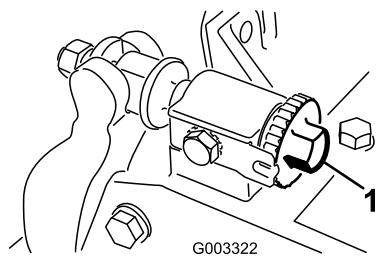
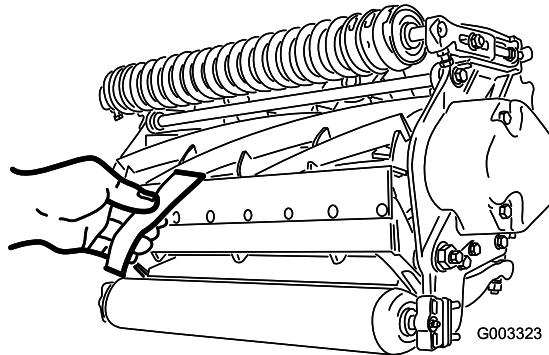

Figure 8
Figure 9
1. Position machine on a flat, level work surface. Make sure reel contact is removed by turning bedbar adjusting screws counterclockwise (Figure 8).
**Important:** Make sure nuts on back end of bedbar adjusting screws are not resting on the work surface (Figure 8).
3. At one end of reel, insert a strip of newspaper between reel and bedknife (Figure 9). While slowly rotating reel forward, turn bedbar adjusting screw (Figure 8) clockwise (on same end of reel, one click at a time, until paper is pinched lightly, when inserted from the front, parallel to the bedknife. A slight drag will be noted as the paper is pulled.
5. After adjustment is accomplished, check to see if reel can pinch paper when inserted from the front and cut paper when inserted at a right angle to the bedknife (Figure 9). It should be possible to cut paper with minimum contact between the bedknife and the reel blades. If excessive contact/reel drag is evident it will be either necessary to back lap or regrind the cutting unit to achieve the sharp edges needed for precision cutting (Refer to the Toro manual for Sharpening Reel and Rotary Mowers, Form No. 80-300PT).